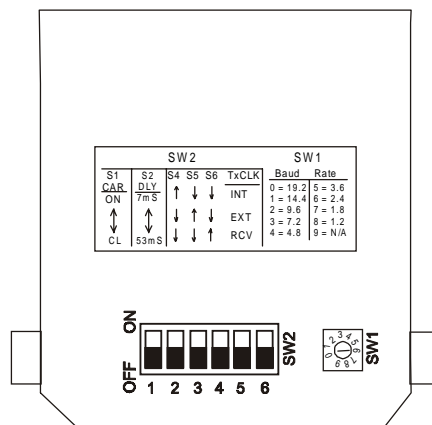
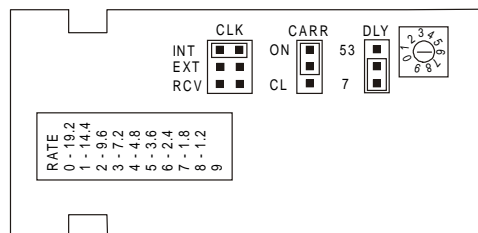

Figure 1. FOM-5S Strapping Diagram
Figure 2. FOM-6S Strapping Diagram
- Strap the modem according to the strapping diagram (see Figure 1 or Figure 2), and the strap-selection table (see Table 1).